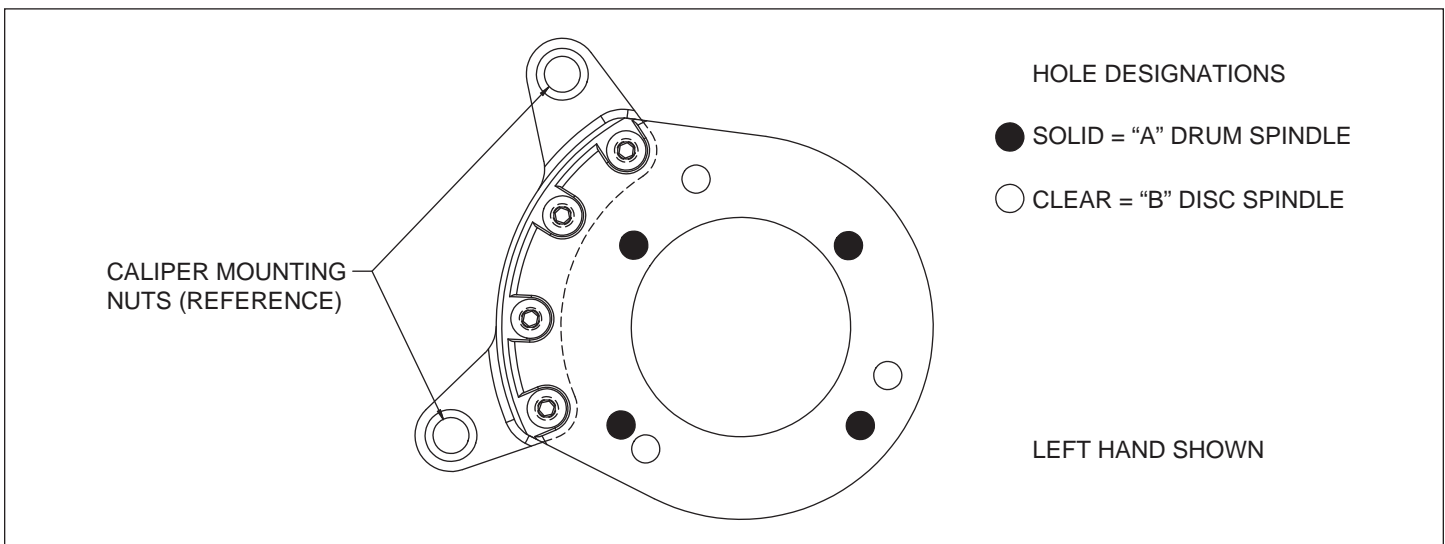
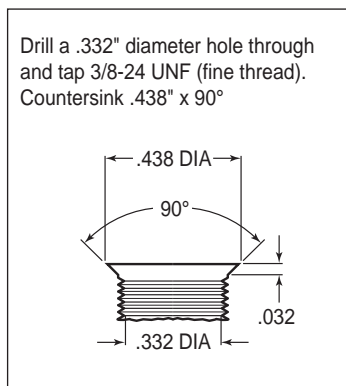
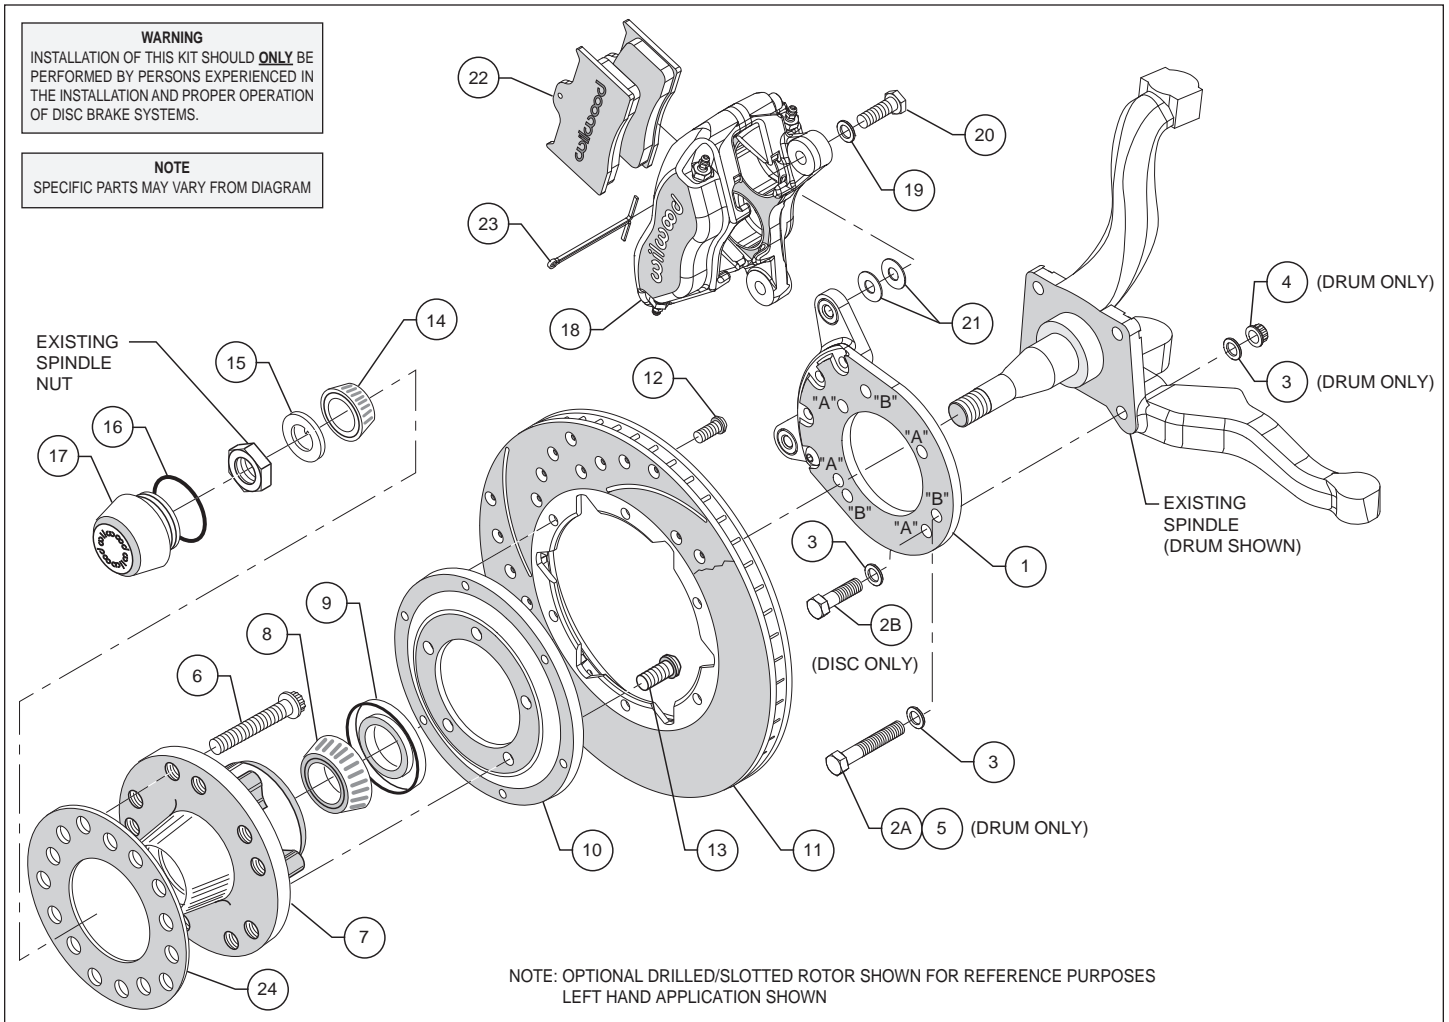

Figure 1. Wilwood Caliper Mounting Bracket
Figure 2. Drill and Tap Detail
Figure 4. Typical Installation Configuration
This kit has been designed for use with both the disc brake or the drum brake configuration of vehicle. The only difference is in how the Wilwood caliper mounting bracket is installed. The same bracket is used for both configurations; the disc brake version utilizes three mounting holes while the drum brake application uses four mounting holes (see Figure 1). For your convenience we have supplied bolt kits for both applications (see parts list and Figure 4 as necessary). Use the bolt kit that is applicable to your vehicle and disregard the other one.
NOTE: This modification should be performed by a qualified machinist and completed before assembly of the Wilwood disc brake kit begins. Using the caliper mounting bracket as a template (refer to Figure 1 as necessary), locate and verify the three original holes on the spindle that need to be modified. Drill a .332" diameter hole through all three holes, then tap 3/8-24 UNF (fine thread). Countersink the holes to .438" diameter x 90°, as shown in Figure 2.
Assembly Instructions (numbers in parenthesis refer to the parts list, and Figure 2 on the preceding pages): **CAUTION:** All mounting bolts must fully engage clinch nuts. Be sure to check that all bolts are either flush or protruding through flanged side of clinch nut after shimming, Figure 5.
•**NOTE:** This kit uses the same mounting bracket (1) for both the drum and disc brake spindles. The drum version, Photo 1, uses four mounting bolts (designated "A"), while the disc version, Photo 2, uses three (designated "B"). Refer to Figures 1 and 2 for the basic installation position of the bracket and the "A" and "B" reference designations (not physically marked on the brackets).
For Drum Spindle: Align bracket, using the four "A" holes, to the face of the spindle and attach using bolts (2A and 5), washers (3), and lock nuts (4), as shown in Figure 2. Ensure that the flanged heads of the clinch nuts in the bracket are facing outboard, Photo 1. Torque nuts to 30 ft-lb.
For Disc Spindle: Align bracket, using the three “B” holes, to the face of the spindle and attach using bolts (2B) and washers (3), as shown in Figure 2. Finger tighten. Ensure that the flanged heads of the clinch nuts in the bracket are facing outboard, photo 2. Remove bolts one at a time, apply red *Loctite*® 271 to threads, and torque to 40 ft-lb.
- Orient the rotor (11) and the rotor adapter (10) as shown in Figure 2 and Photo 5. Attach the rotor to the adapter using bolts (12). Using an alternating sequence, apply red *Loctite*® 271 to the threads, and torque to 25 ft-lb.
- Mount the adapter/rotor assembly (10/11) to the hub (7) using bolts (13), as shown in Figure 2 and Photo 6. Using an alternating sequence, apply red *Loctite*® 271 to the threads, and torque to 55 ft-lb.
- Pack the small outer bearing cone (14) with high temperature disc brake bearing grease and install into hub (7). Slide the hub/rotor assembly onto the spindle. Secure using spindle washer (15) and OEM spindle nut, Photo 7. Adjust bearings per OEM specifications. Install saved OEM nut lock (if any) and a new cotter pin (not included).
- Screw dust cap (17) into hub (7), Photo 8. Friction created by the o-ring (16) on the dust cap keeps it from unscrewing. **NOTE:** The O.D. of the existing OEM spindle washer may be larger than the I.D. of the dust cap not allowing it to seat against the hub face. Therefore, use the spindle washer (15) supplied with the kit instead of the OEM washer.
- NOTE:** Please reference the caution statement at the beginning of the assembly instructions. Mount the caliper (18) onto the caliper mounting bracket (1) using bolts (20) and washers (19), as shown in Figure 2. Initially place two .035” thick shims (21) on each bolt between the caliper and the bracket, Photo 9. Temporarily tighten the mounting bolts and view the rotor (11) through the top opening of the caliper. The rotor should be centered in the caliper, Photo 10. If not, adjust by adding or subtracting shims between the bracket and the caliper. Always use the same amount of shims on each of the two mounting bolts. **NOTE:** The end of each bolt must be flush with or slightly protruding from the head of the clinch nut, as shown in Figure 5. If necessary place spare shims between washer (19) and caliper